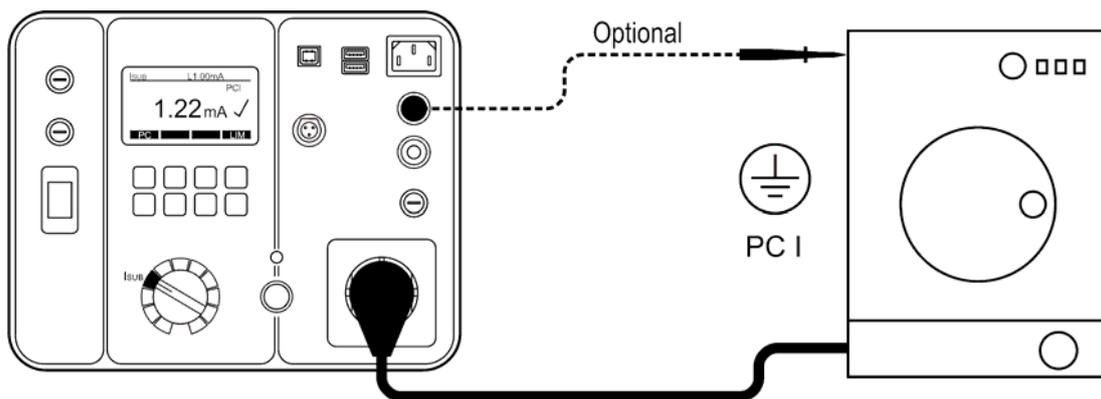

Figure 17: Substitute leakage current test connections at appliance PC I
- Connect the appliance and the test lead according to the figure 17 or 18, depending on appliance protection class (PC).